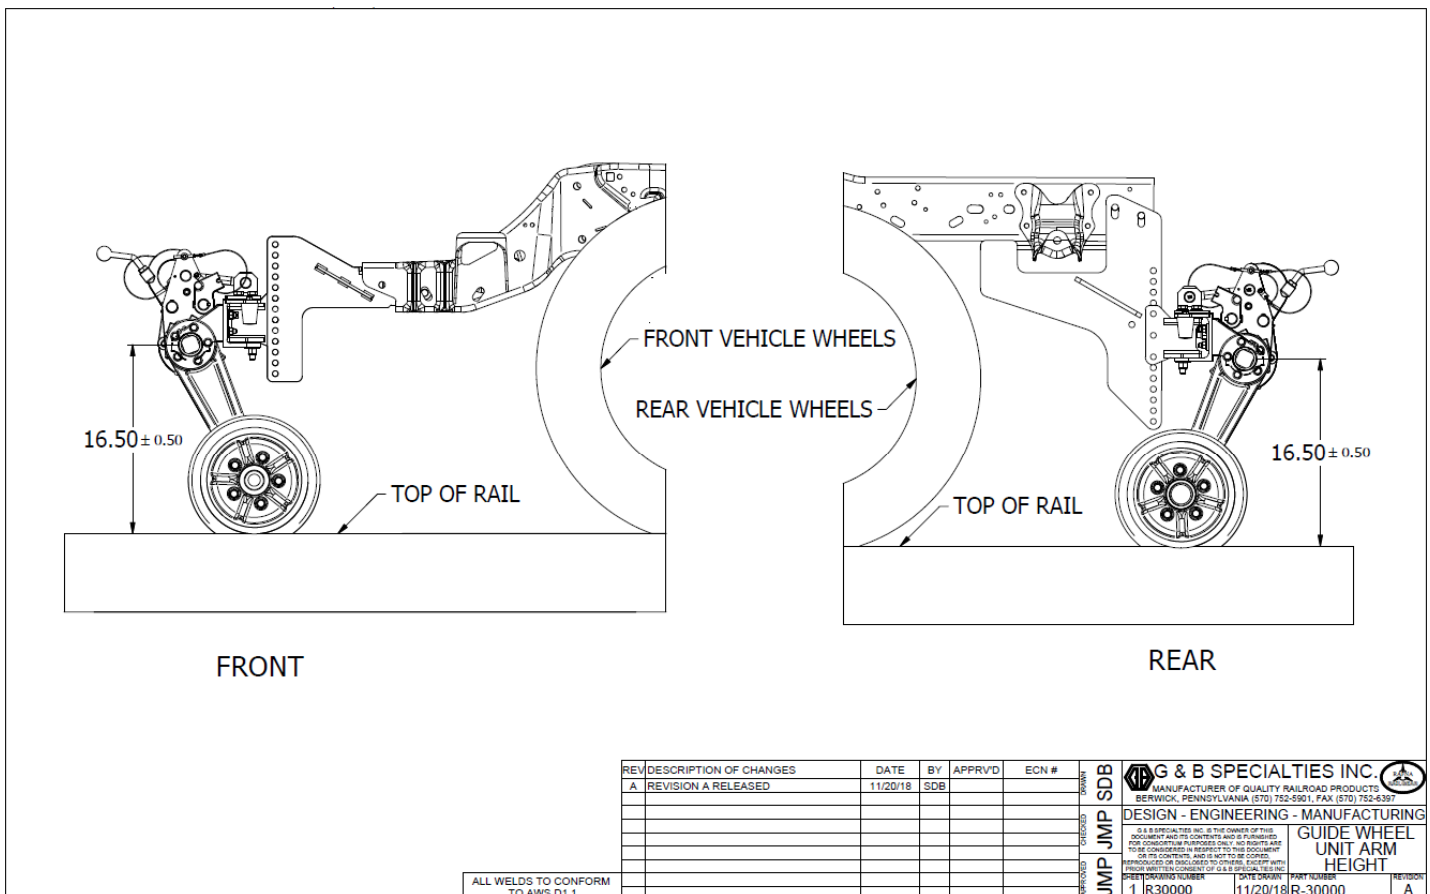

Figure 3-2: Guide Wheel Unit Wheel Arm Vertical Height
1. Figure 3-2 illustrates a side view of a typical R-307A Railgear application. Railgear unit mounts may vary in detail, depending on the vehicle.